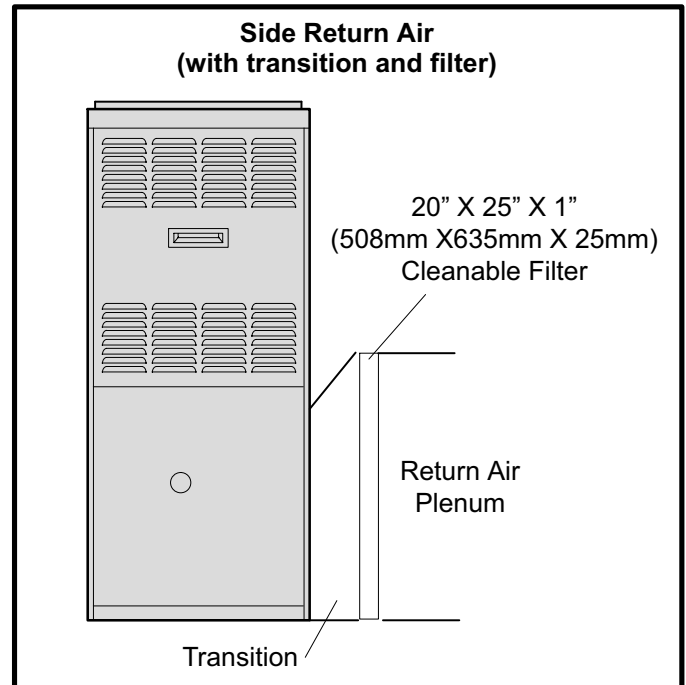

FIGURE 7
- 1 - Return air from single side with transition which will accommodate 20 x 25 x 1 in. (508 x 635 x 25 mm) cleanable air filter. (Required to maintain proper air velocity.) See figure 7.